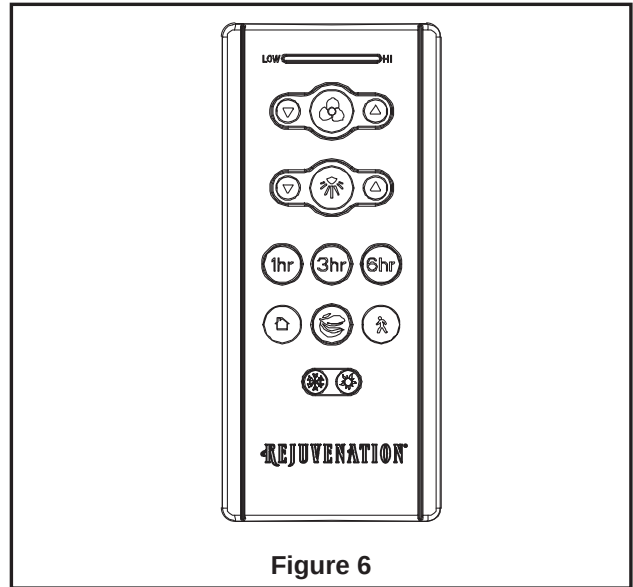

Figure 6
- ☐ 6. Assemble the light housing assembly with glass onto the light plate assembly using previously removed screws. (Figure 6)
8. Remote functions: (Figure 6)